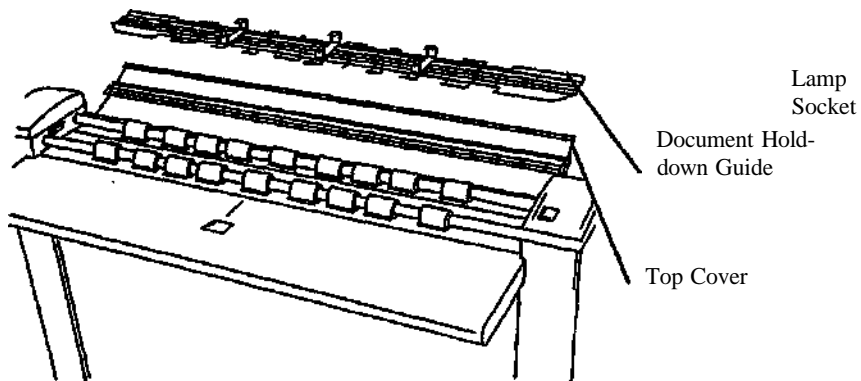

Figure 1. Removing the Document Hold-down Guide
2. (Figure 1): Open the Top Cover and remove the Document Hold-down Guide.